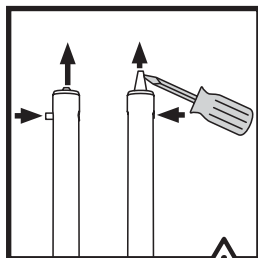

Fig. 10
- Gently ease the locating lug deployment plunger forward by using a flat bladed screwdriver (not supplied) as a lever. (**Fig. 10**)